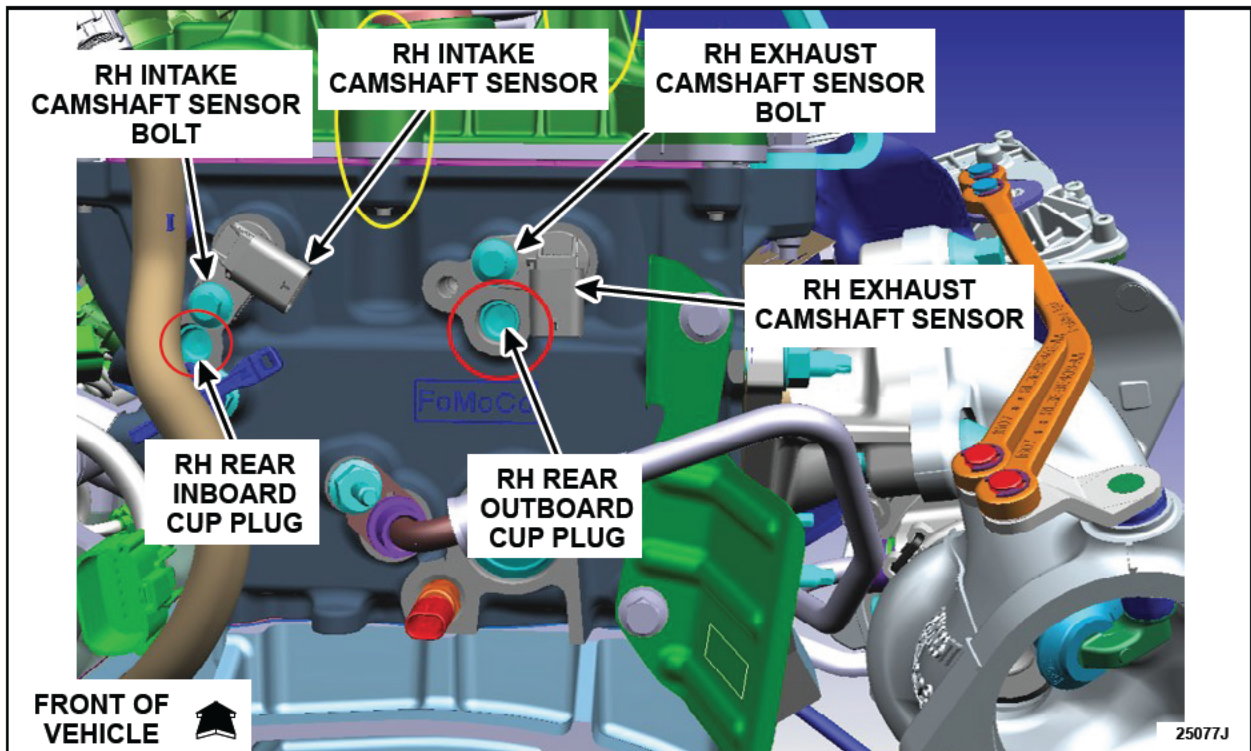

FIGURE 10
2. Through the RH wheel well, identify the RH rear inboard and outboard cup plugs located below the RH exhaust and intake camshaft sensor bolts. See Figure 10.